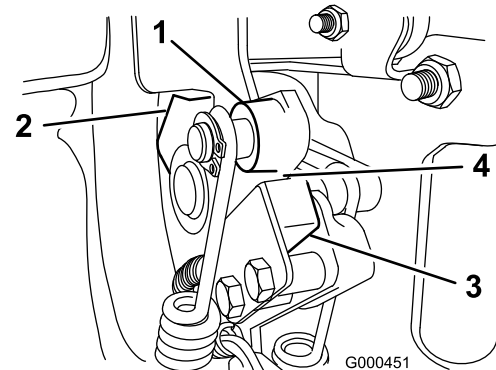

Figure 27
2. Engage traction lever until it contacts neutral stop (Figure 27).
3. Loosen interlock switch mounting fasteners (Figure 27).
4. Place a .032" thick shim between the traction lever and the interlock switch (Figure 27).